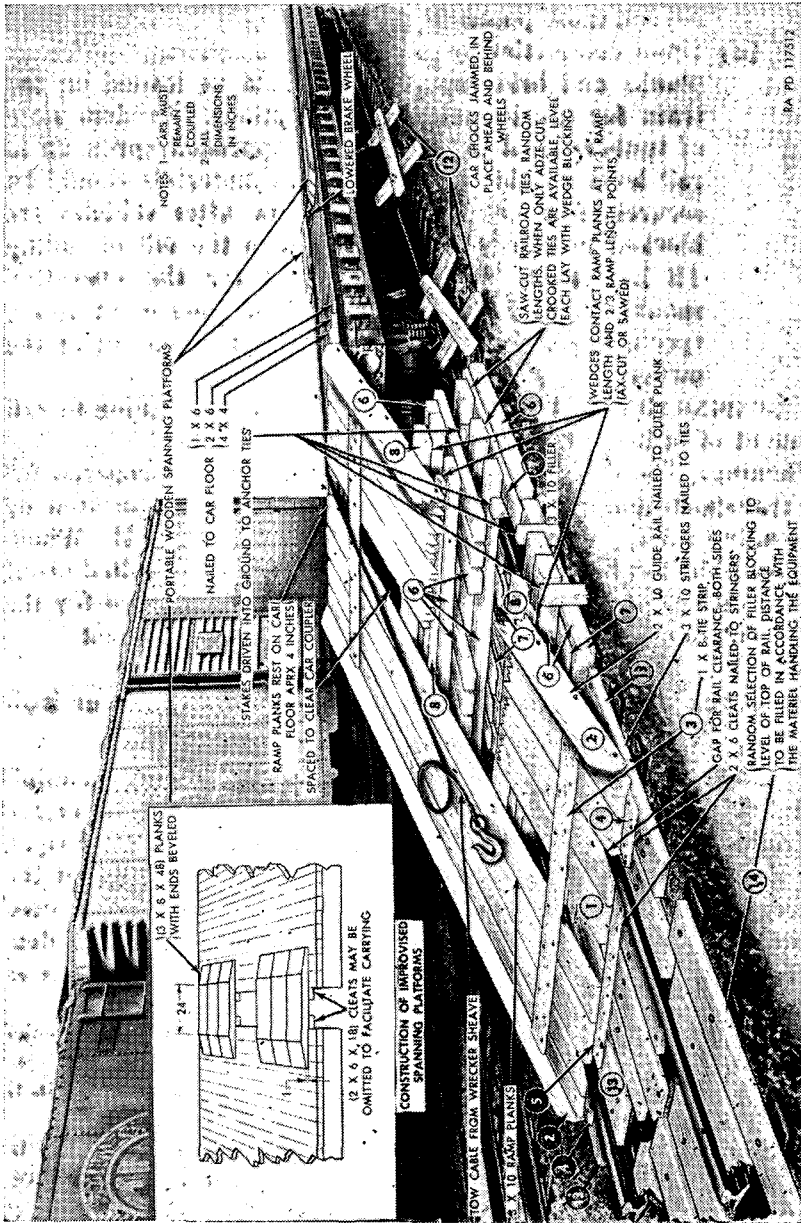

Figure 111. Construction of improvised loading ramp and spanning platforms.
(b) When unboxed vehicles must be loaded from ground level, a ramp may be improvised ((4) below) by borrowing railroad ties normally found stacked in railroad yards and by procuring necessary planking. An end ramp is shown in place in figure 111.
- (e) After the first vehicle is loaded on the flatcar, additional vehicles may be similarly hauled aboard by passing the towing cable beneath the loaded vehicle. When a train of flatcars is being loaded, steel or wooden spanning platforms or bridges are used to cover the gaps between cars. Flatcar brake wheels must first be lowered to floor level to permit passage. A pair of improvised spanning platforms is shown in place in figure 111. These spanning platforms are moved along the train by hand as the vehicle advances.
- (b) Drop-end gondola cars may be loaded exactly as described for flatcars ((1) above). Height of fixed sides is immaterial. Vehicles may progress through a gondola car by passing over the two inwardly-dropped ends and over spanning platforms. Vehicles selected to remain in a gondola car are first moved to the *closed* end of the car, then spread out for blocking after the remaining end is closed and latched.
- (a) A ramp for end-loading of vehicles on open-top freight cars may be improvised when no permanent ramps or hoisting facilities are available. A ramp suitable for the loading of most ordnance items is shown in figures 111 and 112. For loading the 4- to 5-ton 4x4 tractor truck, the width of the ramp may be reduced to two double-plank runways, each cleated together. Length of planking must be determined with consideration to underchassis clearance, in order to clear the hump at upper end of ramp.